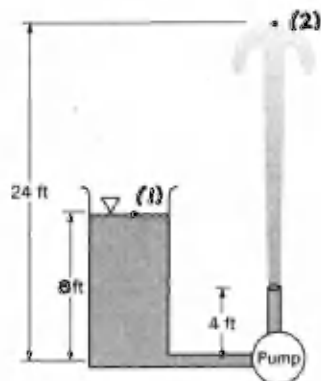

FIGURE P5.22R
5.22R (Energy equation) The pump shown in Fig. P5.22R adds 1.6 horsepower to the water when the flowrate is  $0.6 \text{ ft}^3/\text{s}$ . Determine the head loss between the free surface in the large, open tank and the top of the fountain (where the velocity is zero).